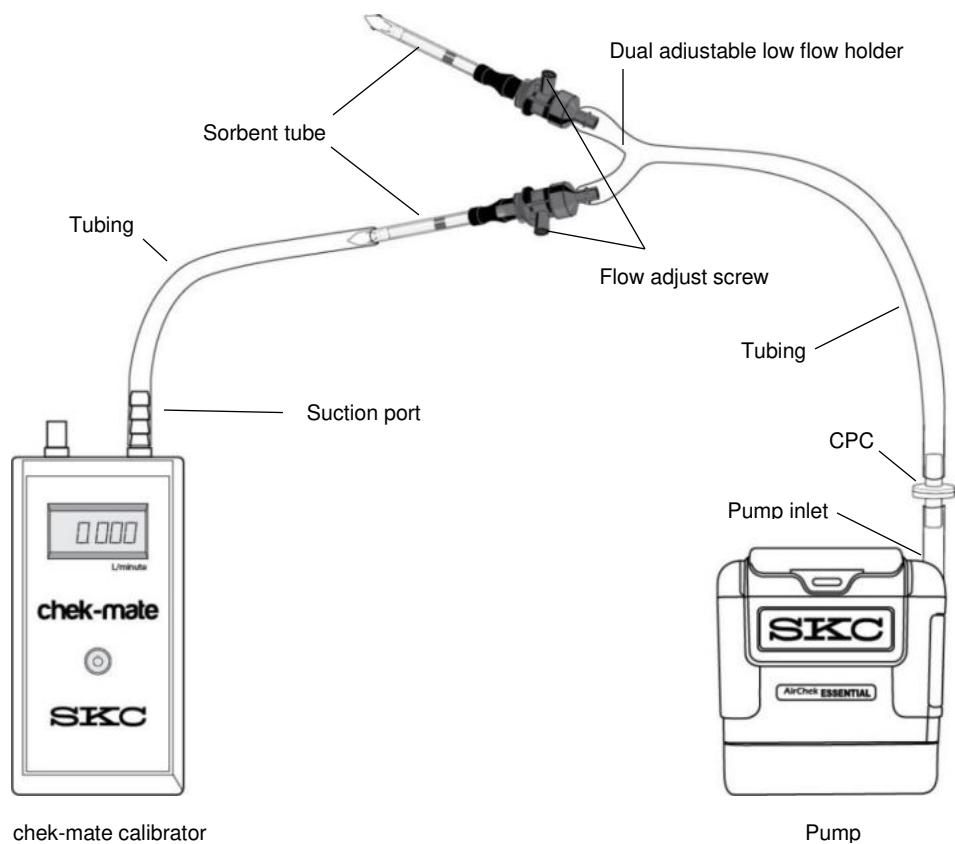

Figure 5. Calibration Train (5 to 500 ml/min) for Multiple Tubes
1. On the tube holder, insert an opened representative tube (arrow on tube pointing toward the pump) into the rubber sleeve on the port. Repeat for the desired number of tube samples. *See Figure 5.* Place an unopened (inactive) tube in any unused port to “seal” it.